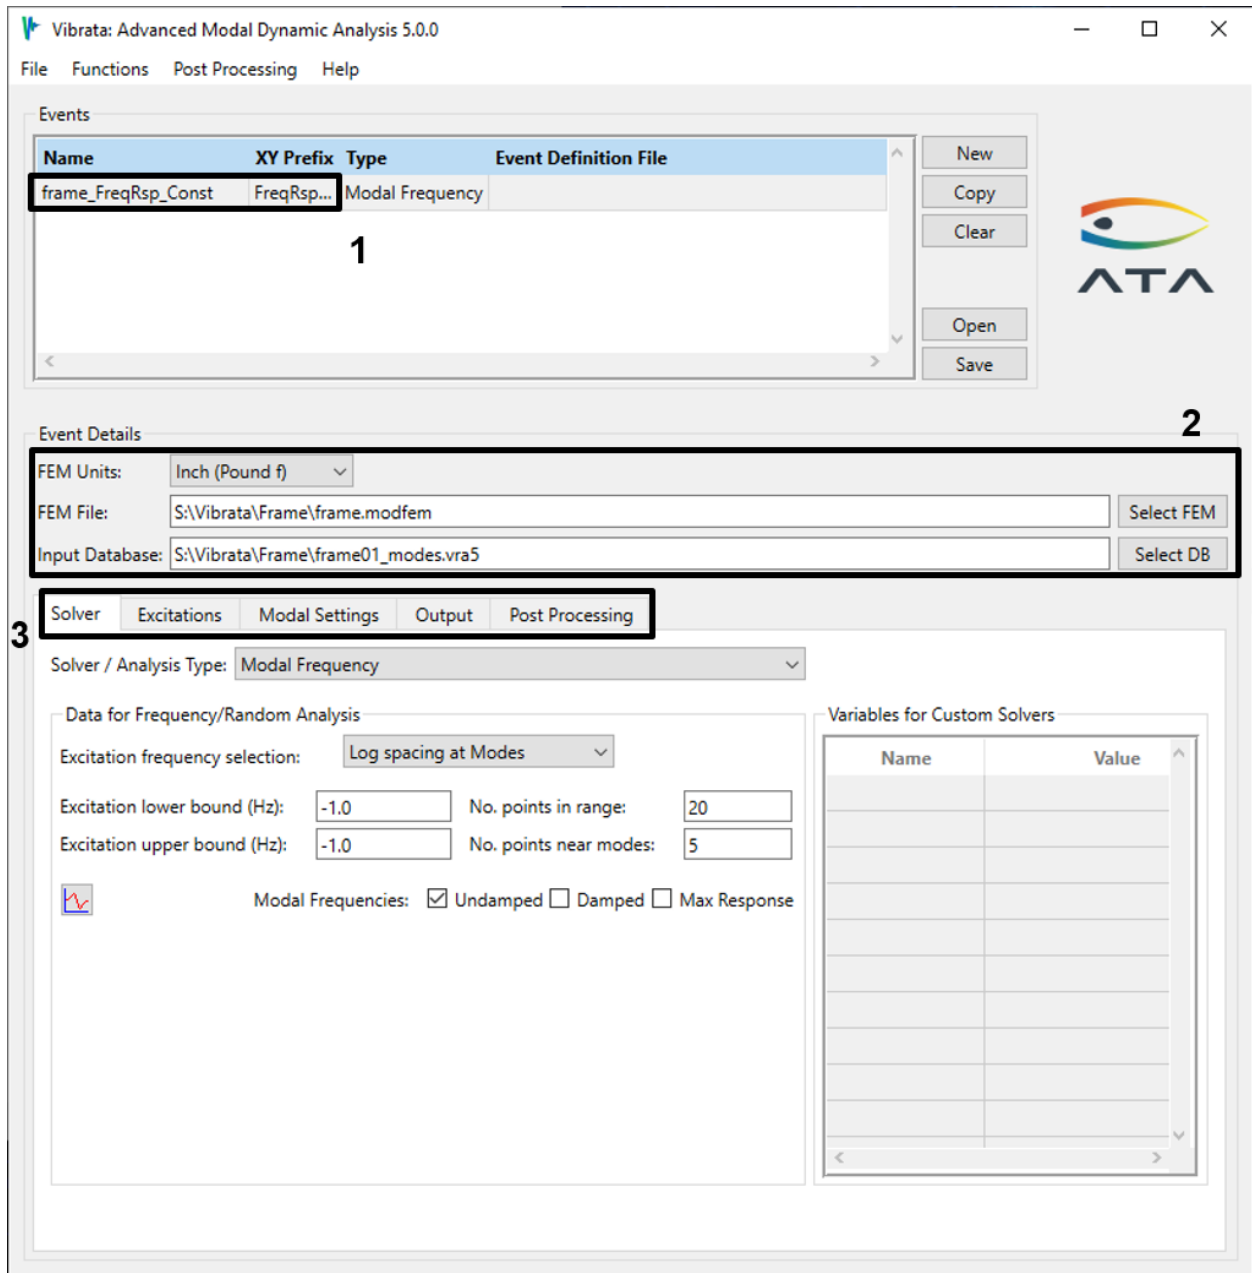

Figure 4-24. Create a new model frequency event using the frame model.
2. In the Event Manager, start a new modal frequency event and select "frame.modfem" for the FEM and "frame01\_modes.op2" for the results. Give the event a recognizable name, such as the one shown in Figure 4-24.